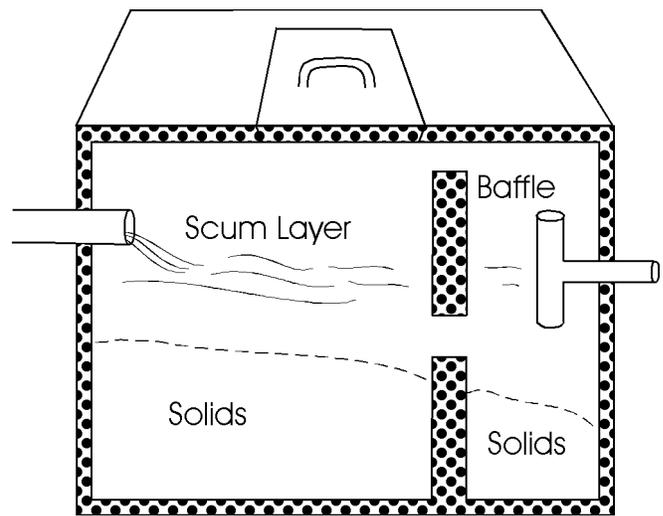

Figure 2. Septic Tank
A. Septic Tank — (Figure 2) a watertight concrete box buried just outside the home which collects wastewater from the home. It is typically designed with a 1,000-gallon capacity although the size is determined by the local health department which bases capacity on the number of bedrooms in the home. The septic tank is the primary treatment component of a septic system: it retains solids, reduces organic wastes and pathogens, and releases effluent to the next component.